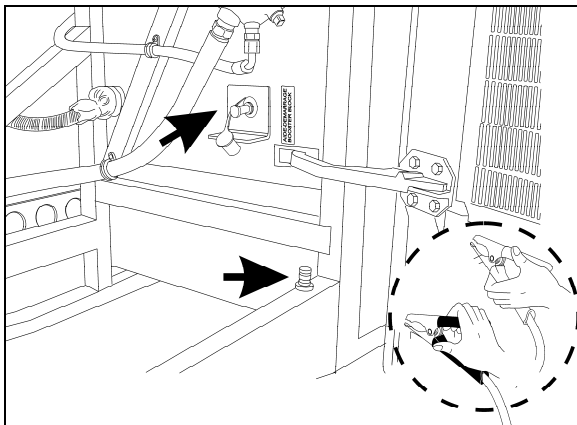

FIGURE 16: BOOSTER BLOCK
1. Connect one end of one red jumper cable to the positive (+) terminal of the booster power source and the other end to the positive (+) post of the booster power block, located on the R.H. side of the engine compartment (FIGURE 16).